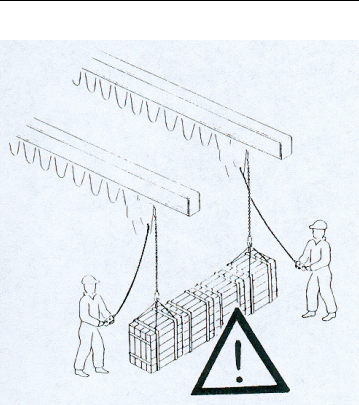

fig.96
- **NEVER** simultaneously make use of two cranes to lift the same load, without having enacted suitable security procedures (fig.96).